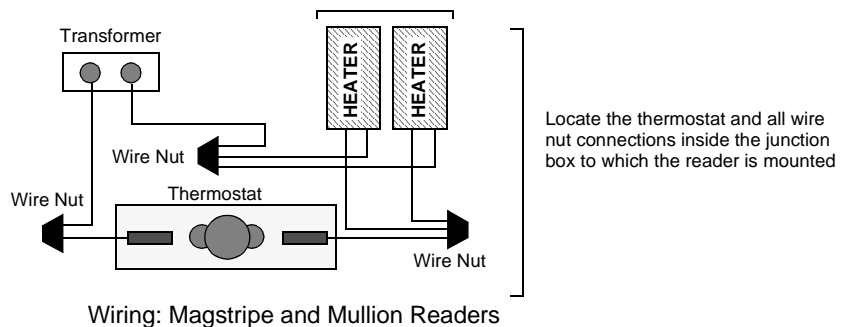

Figure 4.18 Heater Installation for Standard Magnetic Stripe and Mullion Reader
Standard Magnetic and Mullion Readers The current draw for each strip is 1.25 A at 12V. Figure 4.18 illustrates heater placement for these readers.
1. Remove the backing from the double-sided adhesive tape on the heater strips. Firmly press the strips onto the inside of the backplate (see Figure 4.18).